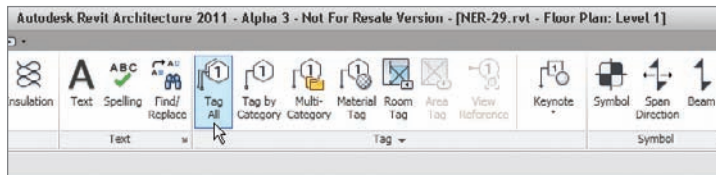

FIGURE 11.68 The Tag All button on the Annotate tab
3. On the Annotate tab, click the Tag All button, as shown in Figure 11.68.